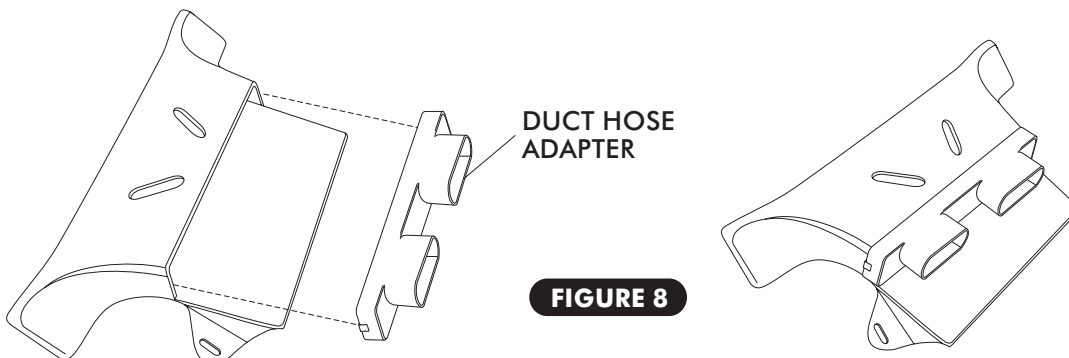

FIGURE 8
- ☐ INSTALL THE DEFROST DUCT HOSE ADAPTER AS SHOWN IN FIGURE 8 BELOW.